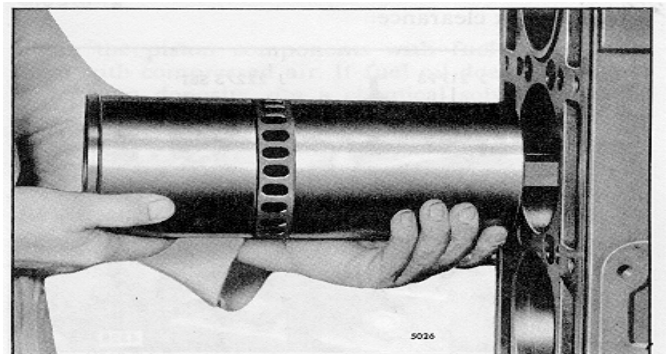

Fig. 15 - Installing Piston, Rod and Liner Assembly in Cylinder Block
4. Position the piston, rod and liner assembly in line with the block bore (Fig. 15) so the identification number on the rod is facing the blower side of the engine and the matchmarks on the liner and the block are in alignment. Guide the end of the connecting rod through the block bore carefully to avoid damaging or dislodging the bearing shell. Then slide the piston, rod and liner assembly straight into the block bore until the liner flange rests against the insert in the counterbore in the block.